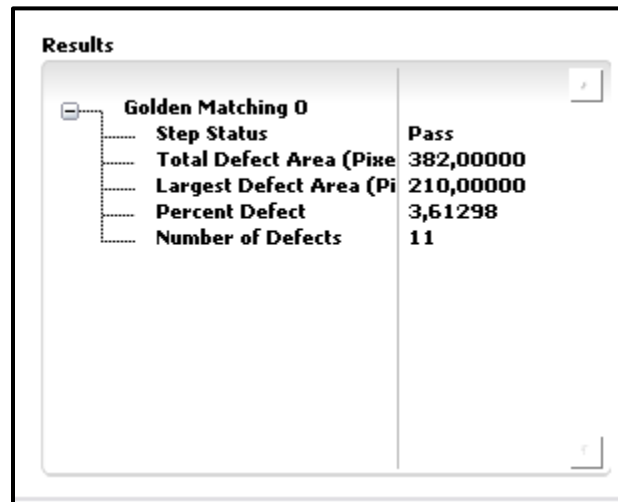

Figure 43. Results window.
- The result can be seen in the Results window [Figure 43].